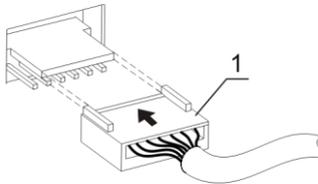

Fig. 1 Thermoblock connection
- Choose the thermoblock, connect the plug to the contact terminal according to the scheme on Fig.1/1 on the underside of the thermoblock. Make sure that the connector is mounted tightly.
- Remove the four knurled screws, lift the block without damaging the cable and disconnect the plug (fig.1/1).